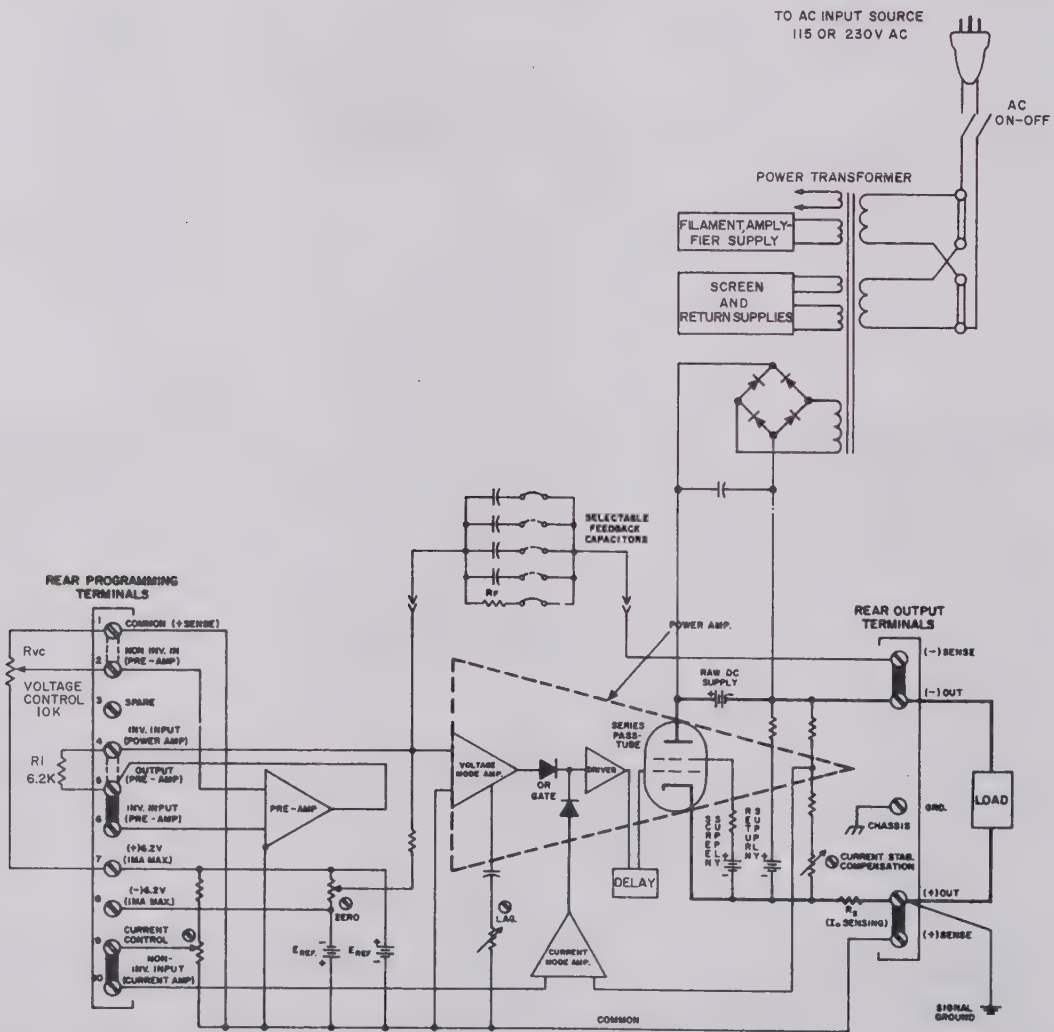
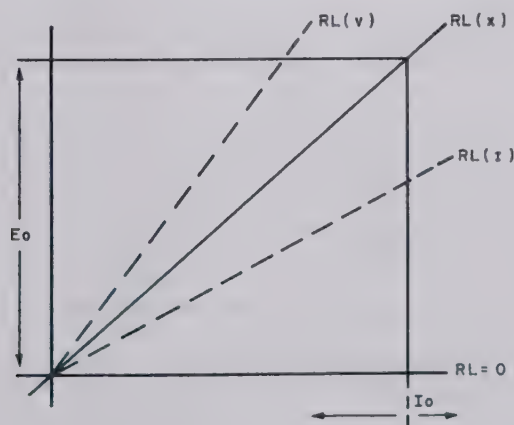

FIG. 4-6 SIMPLIFIED DIAGRAM, KEPCO OPS GROUP IX AS A D-C VOLTAGE OR CURRENT SOURCE.
FIG. 4-7 "CROSSOVER" CHARACTERISTICS, OPS GROUP IX.
E_i $\approx$ 6.2 volts (d-c input voltage to set the OPS output to 1000 volts. Derived by resistor divider from the internal OPS reference and applied to the voltage amplifier null junction via the preamplifier and the 6.2 k ohm series input resistor (see for example FIG. 4-6).
4-25 SIMPLIFIED DIAGRAM DISCUSSION (Refer to FIG. 4-6)
- 4-27 If the OPS is used with the external voltage control resistor (R_{VC}), the internally provided feedback resistor (R_f) and the external input resistor (R_i) connected as shown in FIG. 4-6, it functions as a d-c source delivering stabilized output voltage or current to the load. The operating mode ("voltage" or "current") is determined by the load resistance and by the setting of the (external) VOLTAGE CONTROL and the (internal) OUTPUT CURRENT CONTROL. If, in FIG. 4-7, " E_o " (voltage) and " I_o " (current) represent the respective settings of the output controls, the "crossover" resistance (R_{LX}) is given by Ohm's Law:
- 4-28 Any load resistance, **smaller** than R_{LX} (as, for example, R_{LI} in FIG. 4-7) will transfer the OPS into the "Current Mode." With any load resistance **larger** than R_{LX} (as, for example, R_{LV} in FIG. 4-7), the OPS will operate in the "Voltage Mode."
- 4-29 Operating as a d-c source (as shown in FIG. 4-6), the OPS output voltage and current are constantly monitored and compared to the internal temperature-compensated REFERENCE SOURCE. The VOLTAGE MODE and CURRENT MODE AMPLIFIERS operate as "Error-Signal Amplifiers," and at balance, the settings of the output controls and the value of the load resistance establish a given operating point on the output characteristic, as described previously. A change in either output control setting, or an external influence on the set output quantities (change in load, variations in a-c source voltage) are interpreted by the OPS sensing circuits as "Error Signals." Depending on the prevailing operating mode of the OPS, the "error signal" is amplified by either the VOLTAGE MODE or the CURRENT MODE AMPLIFIER. The amplified error signal is presented to the OR-GATE, which only passes the most positive signal, so that only **one** of the amplifiers can be in control at any one time. Once the amplified error signal is passed by the OR-GATE, it becomes a "control signal" which, amplified by the DRIVER STAGE, is applied to the control grid of the SERIES PASS TUBE.⁽¹⁾ The SERIES PASS TUBE changes its series impedance in response to the control signal from the DRIVER STAGE. The control signal was derived from the "error signal" and is, therefore, proportional to the original output variation of the OPS. The resulting series impedance change in the SERIES PASS TUBE is, therefore, exactly inversely proportional to the original output variation, so that the OPS output is returned to the original value and thereby stabilized.
- d) VOLTAGE CONTROL CHANNEL. If the OPS is used as a stabilized d-c voltage source (as, for example, illustrated in FIG. 4-6), the VOLTAGE MODE AMPLIFIER (IC-3), serves as a comparator. The output voltage is sensed (via the feedback resistor R401)⁽¹⁾ at the $\pm$ SENSE terminals on TB501, and compared with a reference voltage at the inverting input (null junction) of IC-3. The reference potential may be applied (as a control voltage) to the inverting input of the VOLTAGE MODE AMPLIFIER via the output of the PREAMPLIFIER (IC-4, as shown in FIG. 4-6) or it may be applied directly. A condition of balance at the inverting input of the VOLTAGE MODE AMPLIFIER may be expressed by the equation: